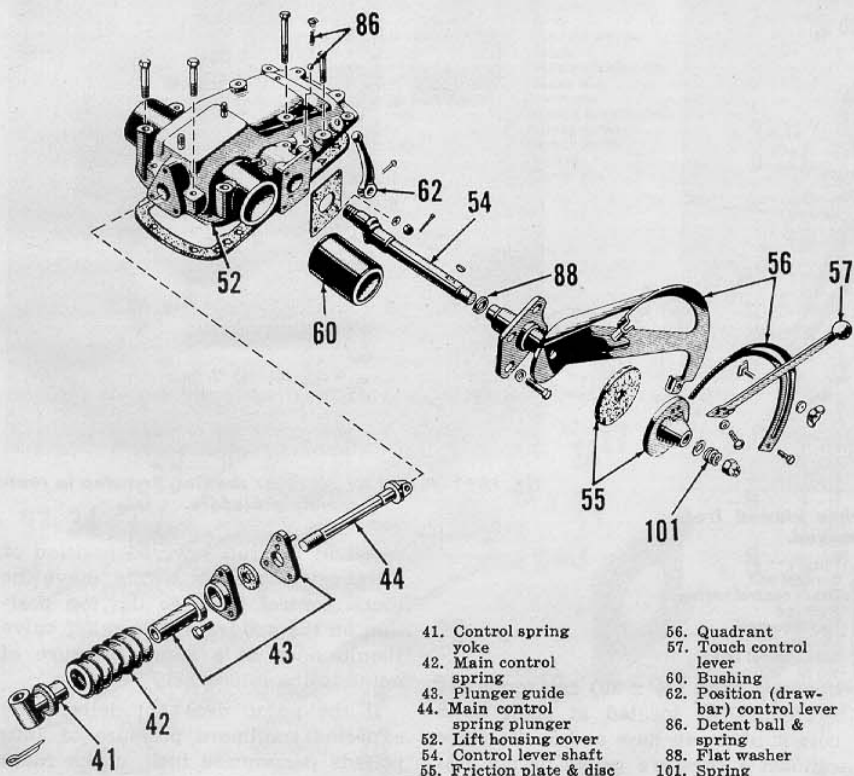

Fig. FO86—Model 8N lift housing cover (52), touch control lever (57), control spring (42), and related parts. Refer to Fig. FO87.
**110. DISASSEMBLE AND OVERHAUL.** Procedure for disassembly of the lift cover assembly is self evident by an examination of the unit and reference to Figs. FO86, FO87, FO88, FO89, FO90 and FO91. The general order of disassembly is the ram cylinder (50), piston connecting rod (47), touch control lever (57), linkage for